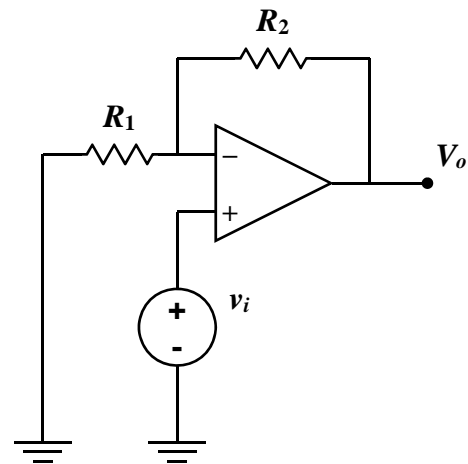

Figure 5.4
15. Construct the circuit shown in **Figure 5.4**, with $v_i = 0.500 \text{ V}$, $R_1 = 10 \text{ k}\Omega$ and $R_2 = 33 \text{ k}\Omega$. Before applying the signal v_i , make sure the positive and negative supply voltages still provide $+15.0 \text{ V}$ and -15.0 V . Make sure v_i is applied to the correct op-amp input terminal. Record its measured value in **Table 5-2**.